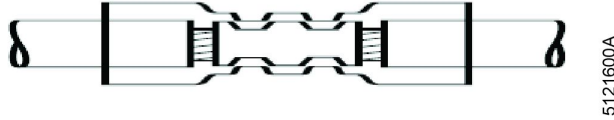

Figure 6
- (12) Verify that the conductors are fully engaged into the butt splice. Crimp barrel using Raychem AD-1522 (or equivalent) crimp tool for preinsulated crimps over each conductor. Tug on each conductor to verify security of the crimp. Refer to Figure 6.